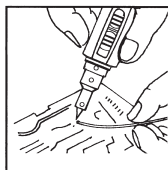

Fig. 7
3. Adjust the flame of the blow torch by turning the lever for adjusting the flame from left (-) to right (+), depending on the temperature you need for your job. See Fig. 7.